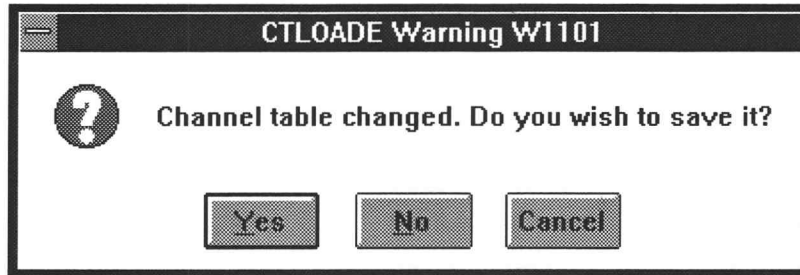

Figure C-5. Dialog box warning that you have made changes and not saved them.
1. From the File menu, choose Open. The dialog box shown in Figure C-5 appears.